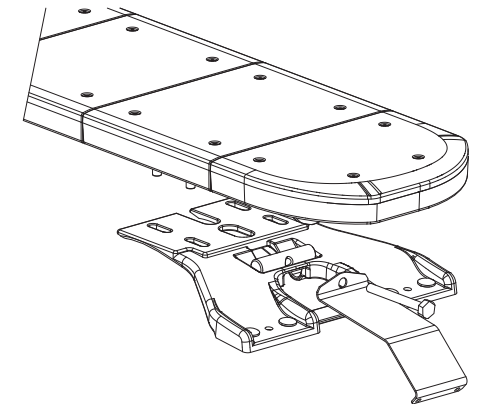

Figure1
- Slide the hex bolt through the hook bracket hole. See figure 1.